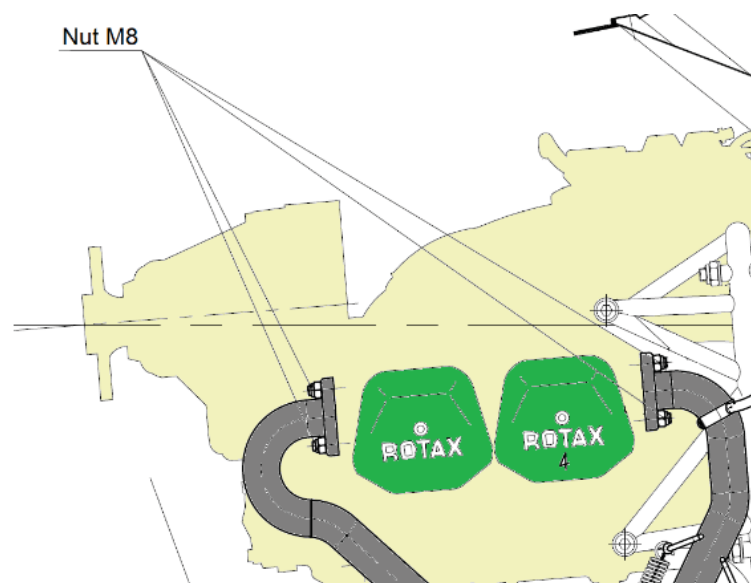

Fig. 3-3
Step 2. Loosen the 8 nuts M8 that connect the exhaust pipe to the engine (see Fig. 3-3). Only loosen the nuts, to not remove them!